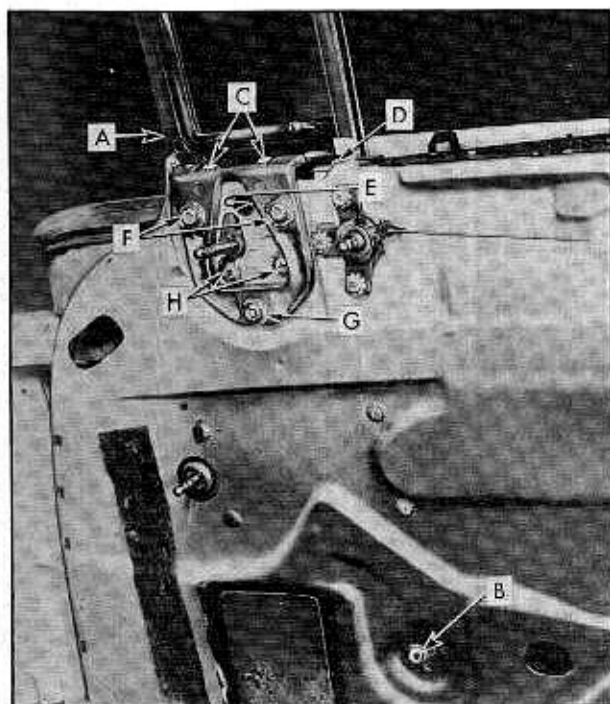

Fig. 3-34 Ventilator Assembly Adjustment (6237)
2. To adjust assembly in or out, loosen adjusting stud nuts "B" and "G" and attaching bolts "F", Fig. 3-34. With screw driver, turn adjusting studs in or out depending on adjustment desired. When adjustment is completed, tighten nuts and bolts.
(31) Door Ventilator Regulator Removal and Installation
1. Break seal of upper and lower hinge pillar weatherstrips at butt joint "A", Fig. 3-34. Loosen remainder of lower hinge pillar weatherstrip from ventilator frame.